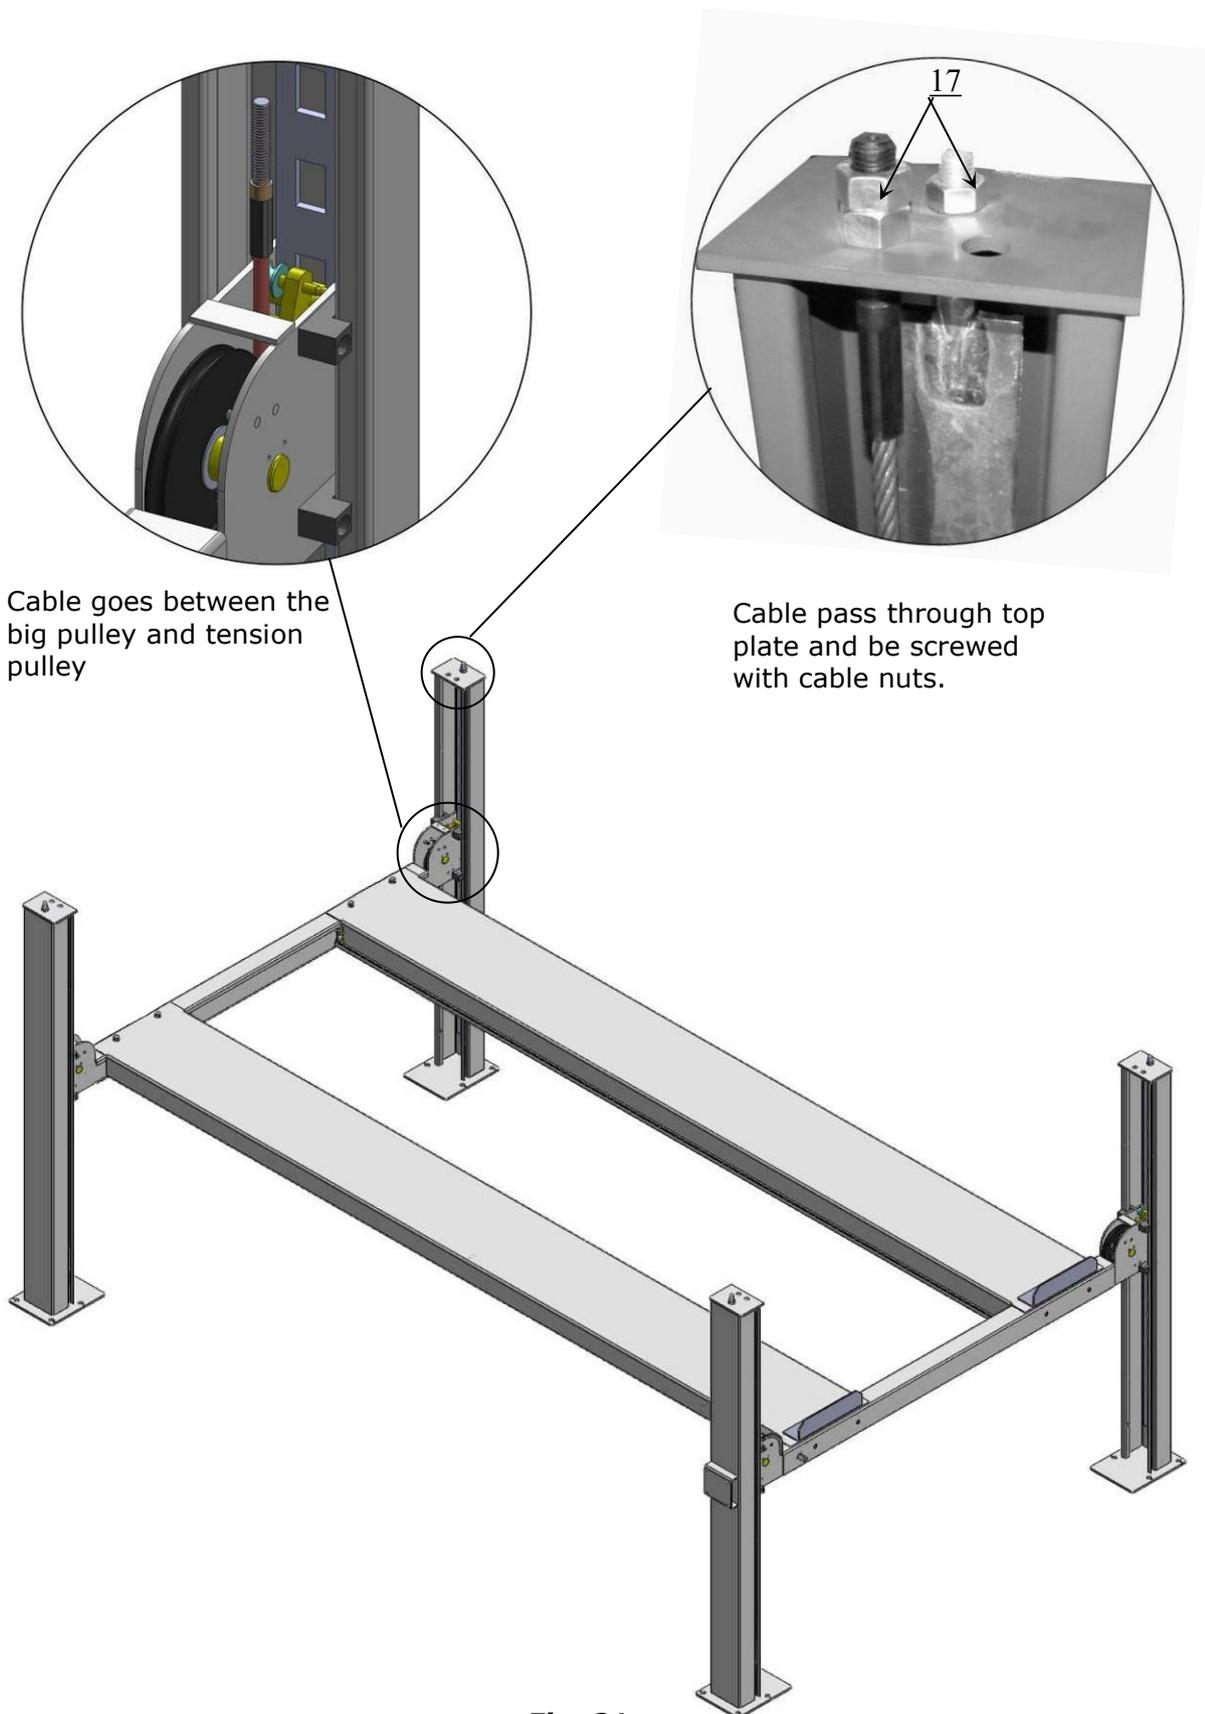

Fig. 21
2. The cable goes through the cross beam to top plate of columns and be screwed with cable nuts (See Fig. 21).